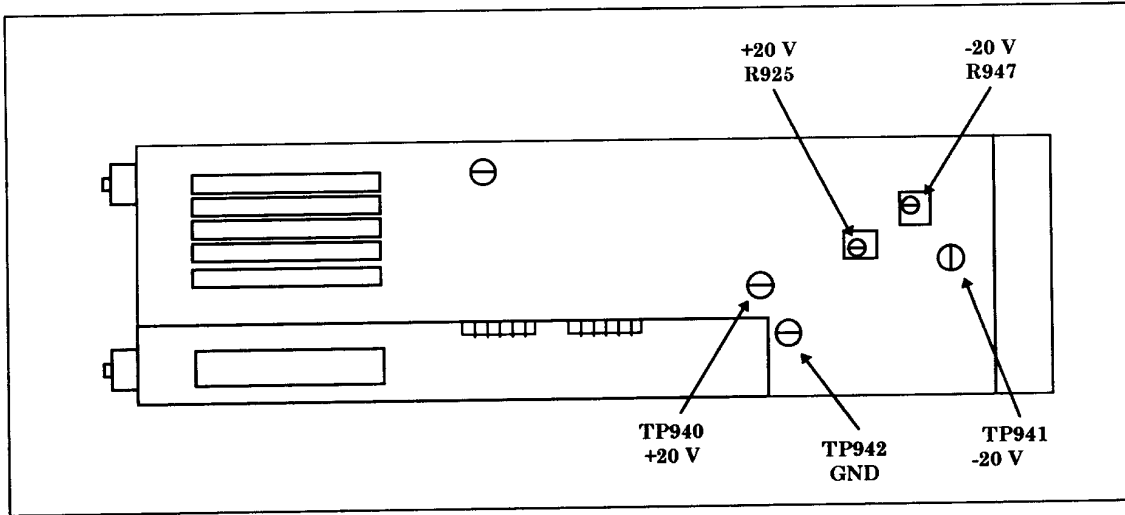

Figure 5. Test instrument – right side view.
(1) Connect digital multimeter **LO** to TP942 GND and **HI** to TP940 +20 V (fig. 5). If digital multimeter does not indicate between 19.94 and 20.06 V dc, perform **b** (1) below.
(2) Move positive lead to TP941 -20 V (fig. 5). If digital voltmeter does not indicate between -19.90 and -20.10 V dc, perform **b** (2) below.
(1) Adjust +20 V R925 (fig. 5) for digital multimeter indication of +20 V dc (R).
(2) Adjust -20 V R947 (fig. 5) for digital multimeter indication of -20.0 V dc (R).